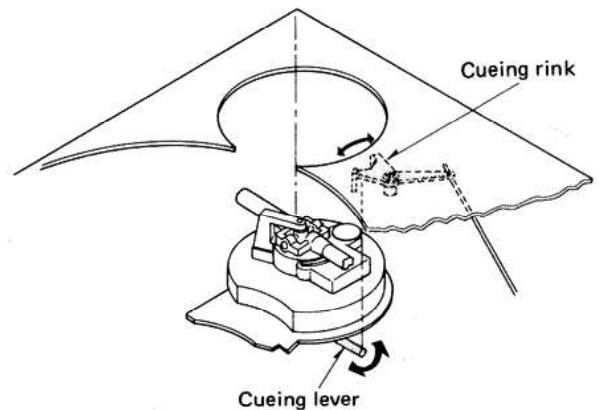

Fig. 4
10. When assembling the main base and cabinet, make sure that the cueing lever of the arm base is engaged with the cueing ring of the cabinet. (See Fig. 4)